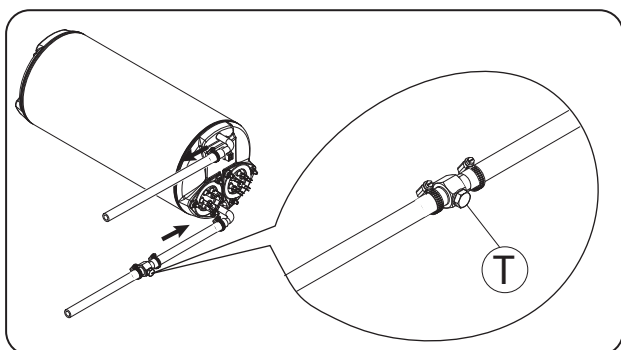

Figure 13 Rinse aid connection
- connect the rinse aid dispenser pipe, unscrewing plug "T" (Figure 13), always paying attention to